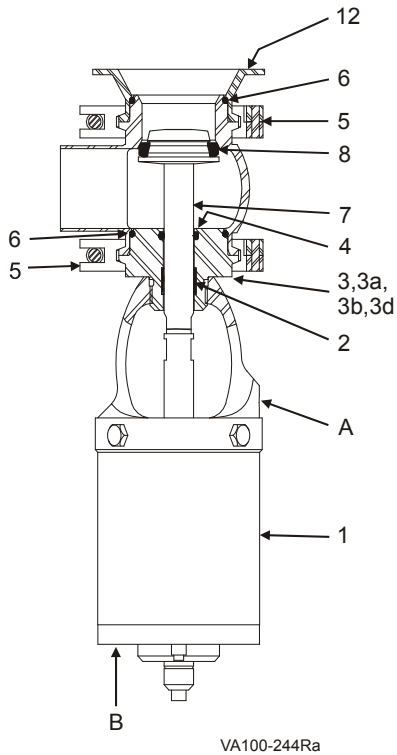

Figure 21: W64R/W84R Tank Outlet Valve
1. Screw the adapter (Figure 21, item 3) onto the yoke.
2. Install the body o-ring (item 6), stem o-ring (item 4), and the PTFE bearing (item 2).
3. Using 5/8-inch torque wrench flats on the stem, install the valve stem (item 7). Torque to 380 in/lbs.
5. Assemble the body to the adapter (item 3); secure it with the body clamp (item 5).
7. Insert the valve into the tank flange and tighten the body clamp (item 5).